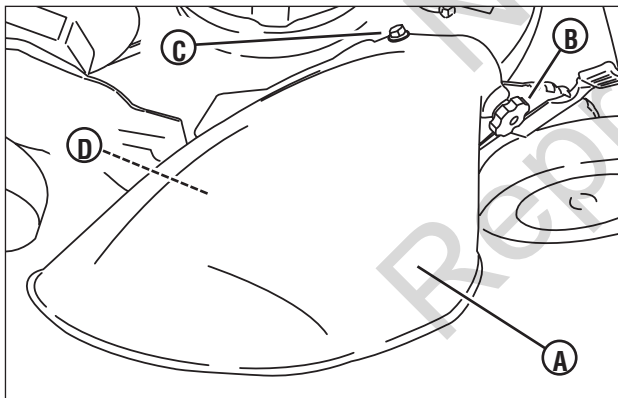

Figure 9: Installing the discharge deflector
2. Install the deflector (**A, Figure 9**) to the deck in place of the recycling cover, making sure that: